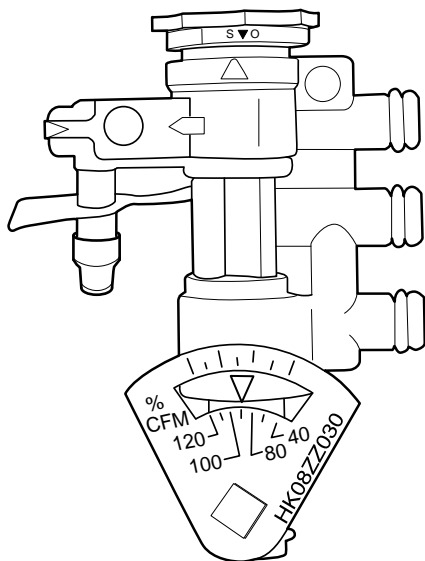
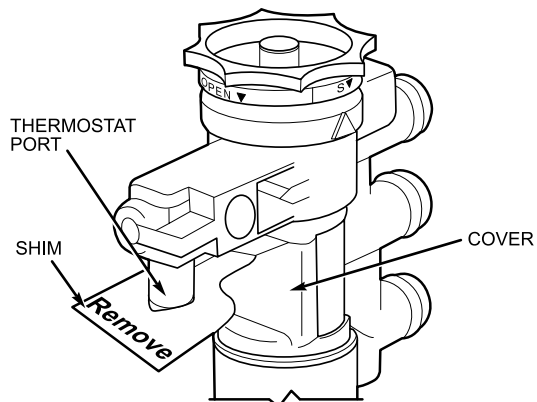

Fig. 16 — Setting Maximum Volume — 37HS Controller
Fig. 17 — Shim Removal
6. Remove cap on thermostat port of volume controller. Pull shim down until released from port and then pull shim out from body of volume controller. Discard shim. Figure 16 shows the volume controller and Fig. 17 shows the shim removal.